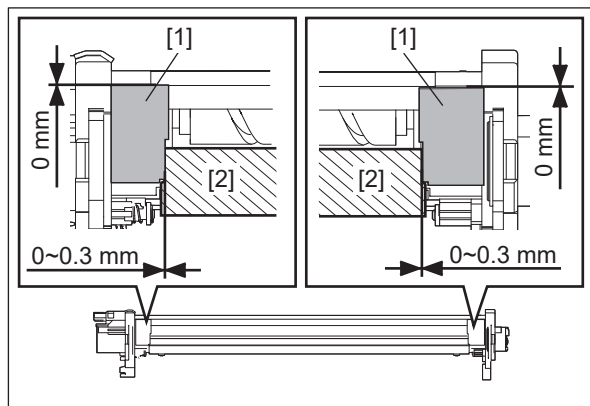
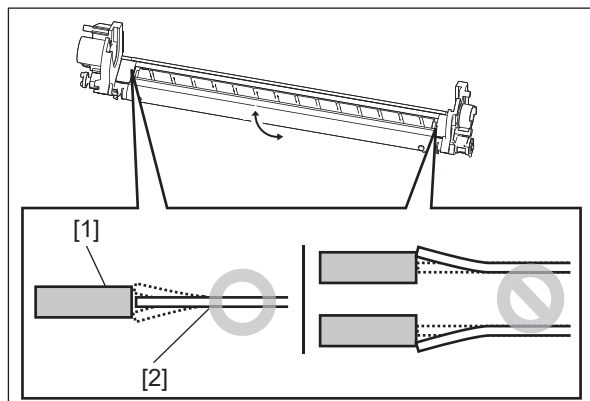

Fig. 4-322
Fig. 4-323
- If not in accordance with 📖 P. 4-129 "Fig. 4-322 " and 📖 P. 4-129 "Fig. 4-323 " of "4.6.5 Blade side seal".